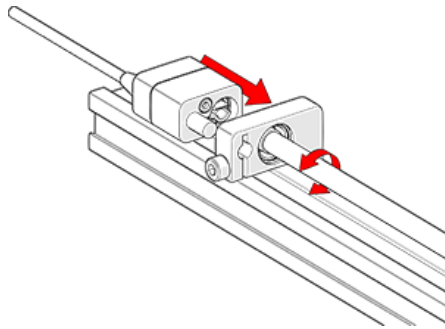

Figure 3-38 Align and mount post
2. Insert the encoder post in the index encoder support bracket while aligning the leadscrew shaft with the encoder socket (see Figure 3-38 on page 66).